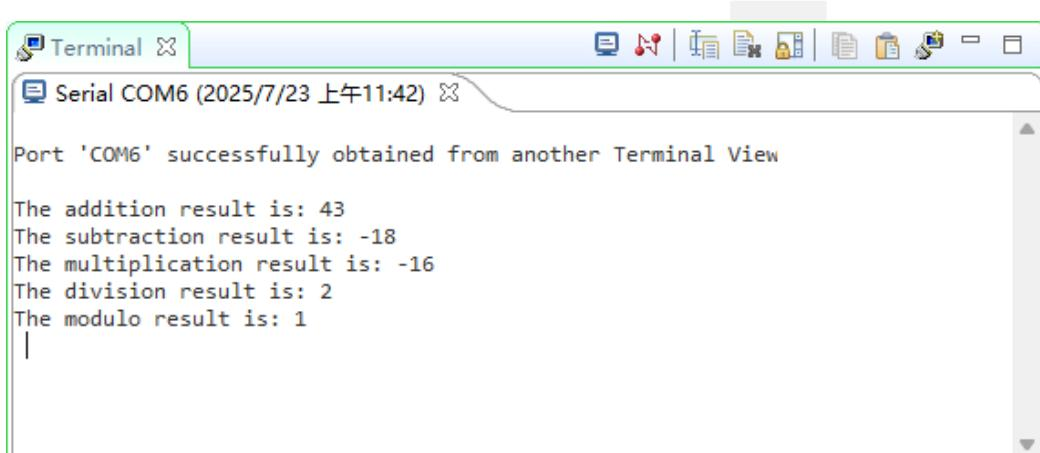

Figure 8
**Figure 8** shows what the Console should look like when the application is successfully run. Following the same procedure as described in **Section 4 Step 5: Open Terminal View** and **Step 6: Configure Serial Terminal** of Lab 1 instructions, open the terminal to view the output. Additionally, follow **Step 7: Configure Run Settings** and **Step 8: Set Up Debug Configuration** as outlined in Section 4 to properly configure and run the application. However, I have still included the corresponding operation screenshots as shown in Figure 7(a)-(d). You can play around with the arguments in the operation functions. If you have successfully carried out the activity on arithmetic operations, you can now move on to program flow control.